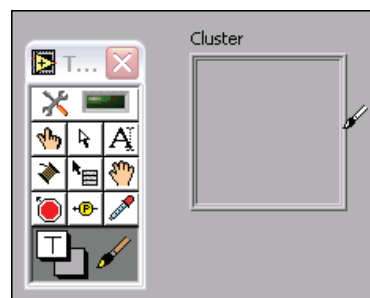

Figure 3-1. Transparent Cluster Borders
- ☐ Click the border of the cluster with the Coloring tool as shown in Figure 3-1 to make the cluster border transparent.